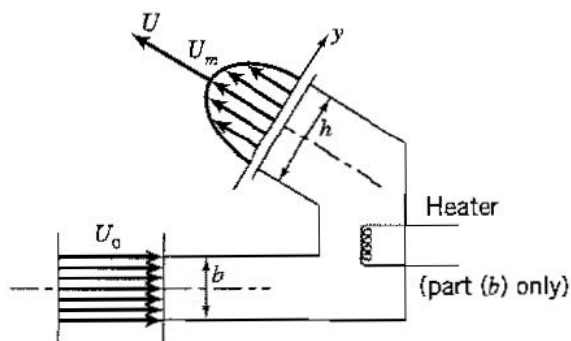

Figure P3.26
3.26 A two-dimensional duct of constant width carries a steady flow of constant density fluid (density ρ), as shown in Figure P3.26. At the entrance, the velocity is constant over